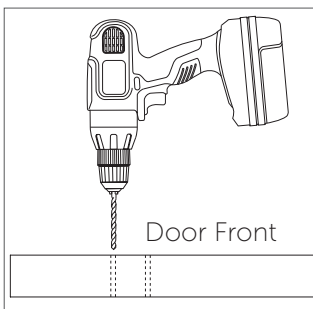

Figure 3
6. Drill two pilot holes all the way through the door for each hanger using a drill with an 1/8" drill bit (Figure 3).
7. Drill out the marked holes using a drill with a 1/4" drill bit (Figure 3).